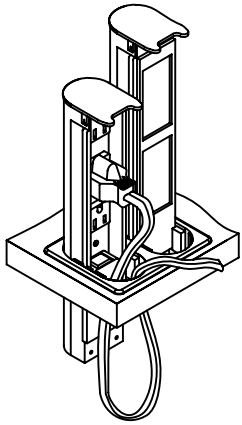

Figure 11
10. Slide the power center through the grommet until it snaps into it's upright position. It can now be lowered until it is flush with the work surface and in it's concealed position. Be sure the power supply cord/cable is free to move up & down with the power center. (Figure 11)